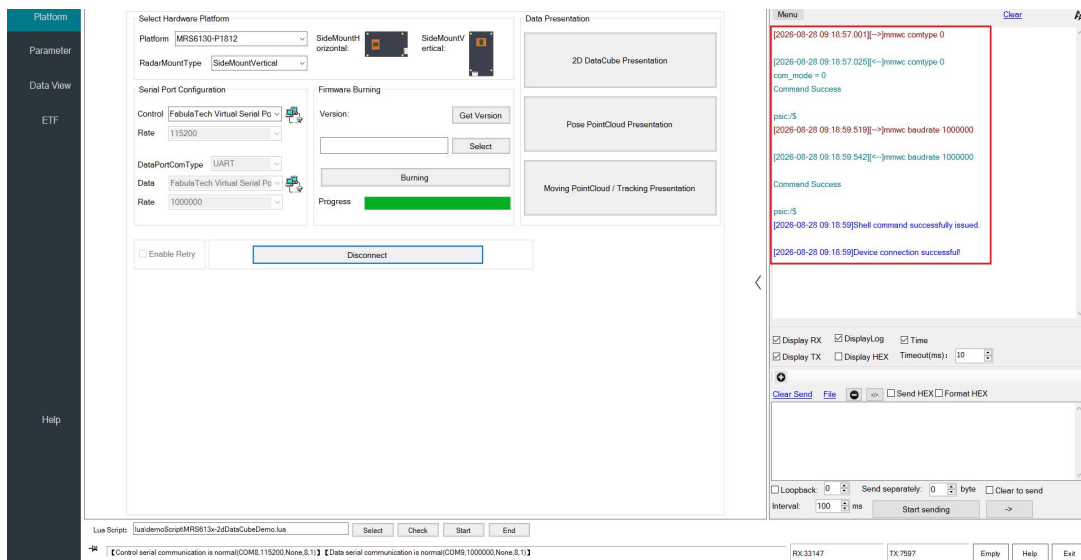
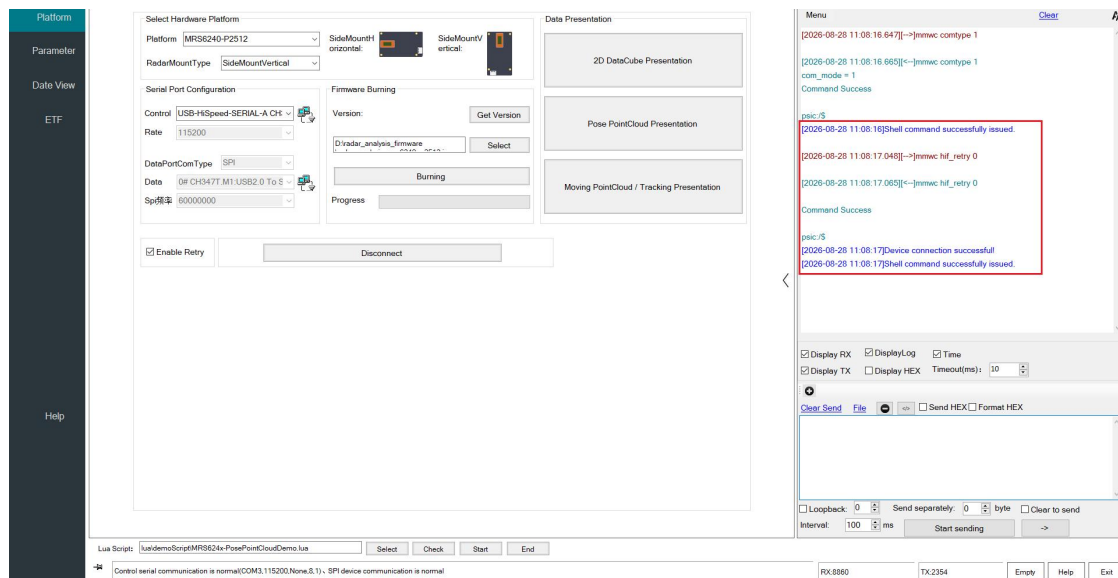

Figure 2-8 Successful Device Connection (dual-UART)
Figure 2-10 Successful Device Connection (UART_SPI)
- (1) For dual UART, select the USB Serial Device (COMx) port with the smaller COM number. RadarAnalysisTool sends the data-port baud-rate setting to the radar and communicates at that rate. For serial-port compatibility, use 1 Mbaud whenever possible.
- (2) For UART_SPI, select the port whose name contains CH347T.M1:USB2.0ToSPI&IIC.
- 5、After the Device is connected, it automatically switches the data-port baud rate. A successful setting is indicated in the LOG text box, as shown in Figure 2-8 and Figure 2-10.